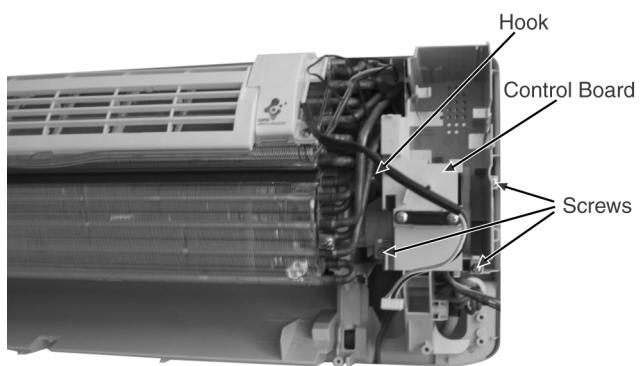

Fig. 9
- Release the 3 screws. (Fig. 9)
- By pressing down the hook at the left, you will be able to remove the Control Board. (Fig. 9)